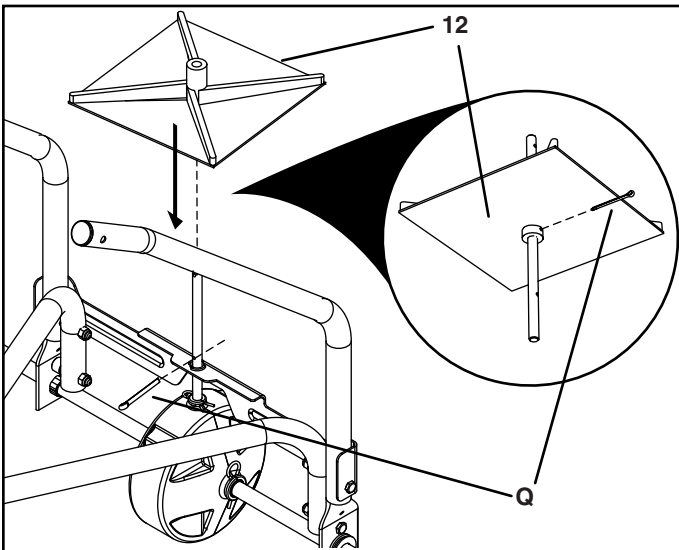

FIGURE 6
STEP 6: (SEE FIGURE 6)
- Slide the spreader impeller (12) onto the spreader shaft and secure it with a 1/8" x 1-1/2" cotter pin (Q) by spreading the ends of the pin.